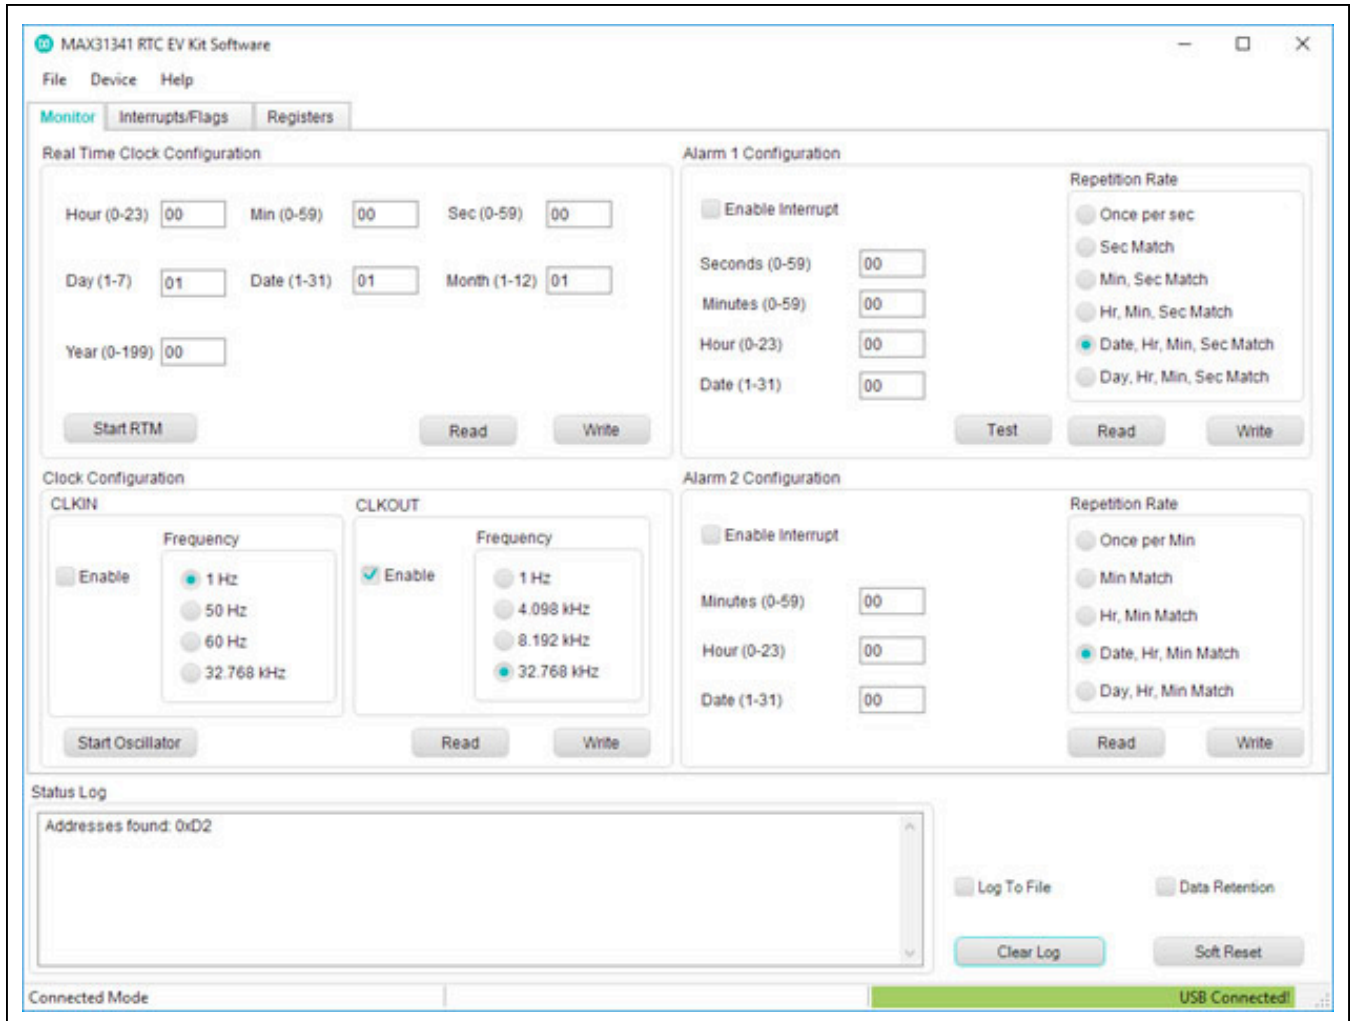

Figure 3. MAX31341 RTC EV Kit Software—Monitor Page
- 8) Open the MAX31341 real-time clock EV kit software. MAX31341 Real-Time Clock EV Kit Software Monitor page will be opened and it shows USB Connected (Figure 3).